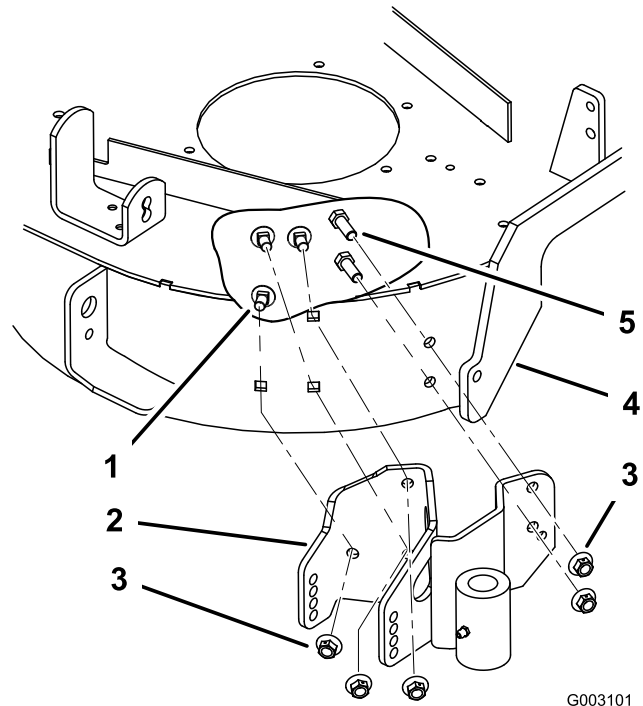

Figure 5
8. Install the new bracket to the outside of the mower deck with the 3 existing bolts and 2 new bolts (3/8 x 1 inch) and 2 nuts (3/8 inch) (Figure 5).